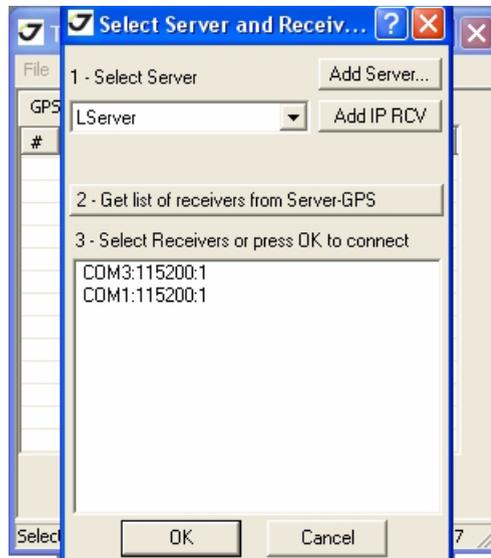

Figure 2-2. Connection Parameters
2. Start TriVU. Select the COM port and click Ok (Figure 2-2).